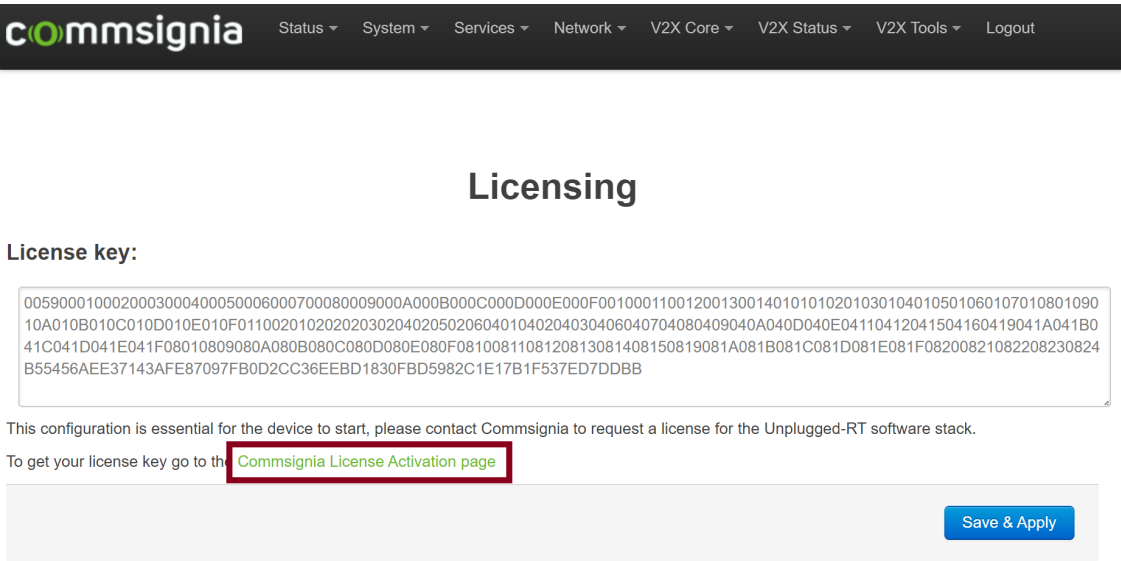

Figure 42. Licensing page on the GUI
3. Open the **V2X Core** → **License** menu item and click on the link "Commsignia License Activation page" as shown in Figure 42. This opens the License Activation page.